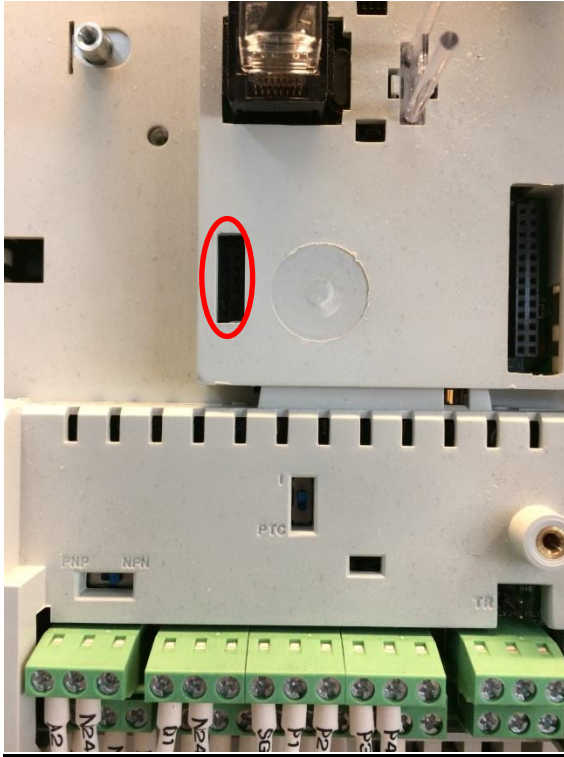

Figure 5
- g. Gain access to the flash port by removing the keypad and the front cover. See Figure 5.